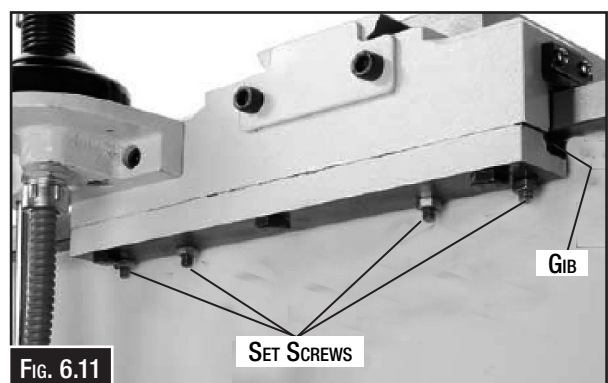

FIG. 6.11
1. Loosen the jam nuts on the four set screws Fig. 6.11), and adjust the set screws.